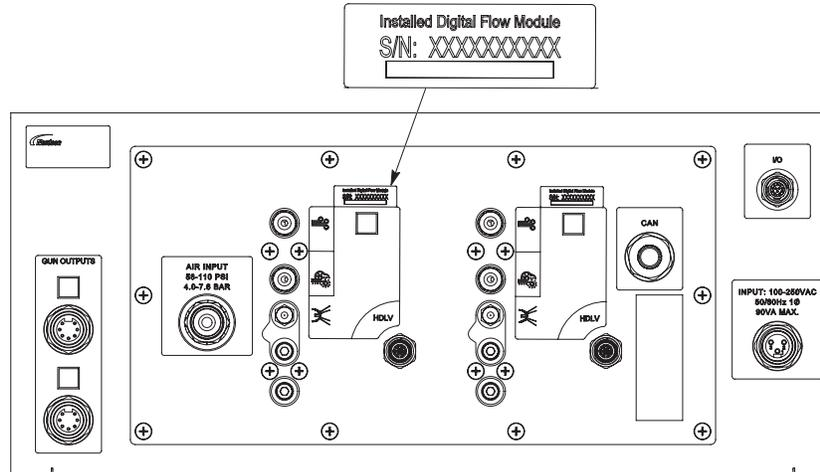

Figure 6-2 Spray Controller Module (Rear View)
See Figure 6-2. A matching serial number label is placed on the back of the spray controller module for easy reference.
1. See Figure 6-2. Reference the serial number of the new iFlow module. The serial number label of the new iFlow module should have been removed from the new iFlow module and placed on the back of its respective spray controller.